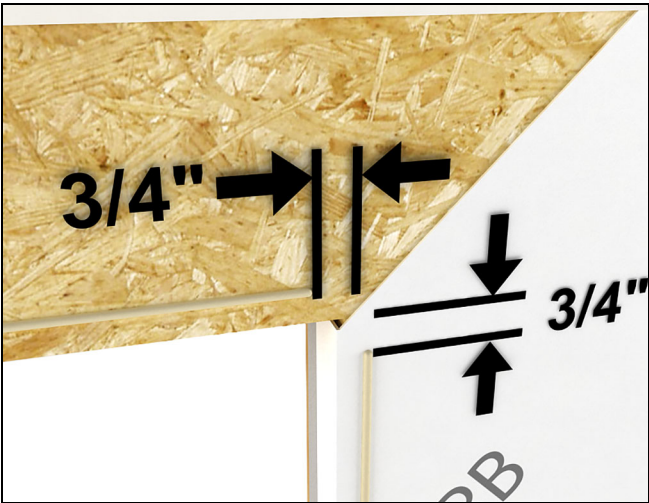

Figure 11
2. Starting in 3/4" from the side, apply 1/4" to 3/8" bead of sealant 1/2"- 3/4" across the top of the RO stopping 3/4" in from the end. Apply sealant down both sides of the window opening in the same manner. Do not apply sealant across the RO bottom. See Figure 11.